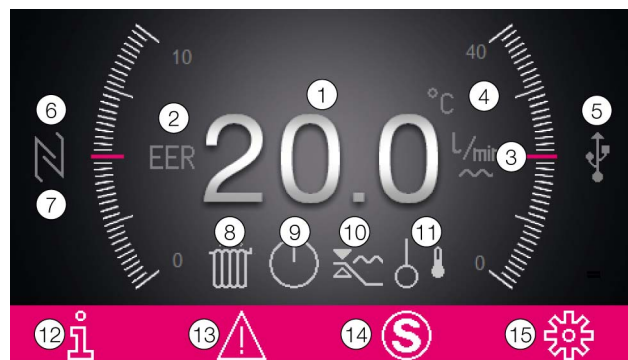

Fig. 44: Layout of the start screen
On the chiller display, the current volumetric flow passing through the bypass is shown to the right of the temperature reading (fig. 44, item 3).